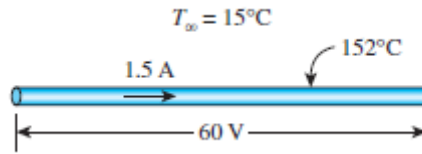

Figure Q4(c)
- (c). A 2-m-long, 0.3-cm-diameter electrical wire extends across a room at 15 °C, as shown in **Figure Q4(c)**. Heat is generated in the wire as a result of resistance heating, and the surface temperature of the wire is measured to be 152 °C in steady operation. Also, the voltage drop and electric current through the wire are measured to be 60 V and 1.5 A, respectively. Please ignore any heat transfer by radiation, determine the convection heat transfer coefficient for heat transfer between the outer surface of the wire and the air in the room.
- (d). Consider a 20-cm-diameter spherical ball at 800 K suspended in air as show in **Figure Q4(d)**. Assuming the ball is closely approximates a blackbody, determine